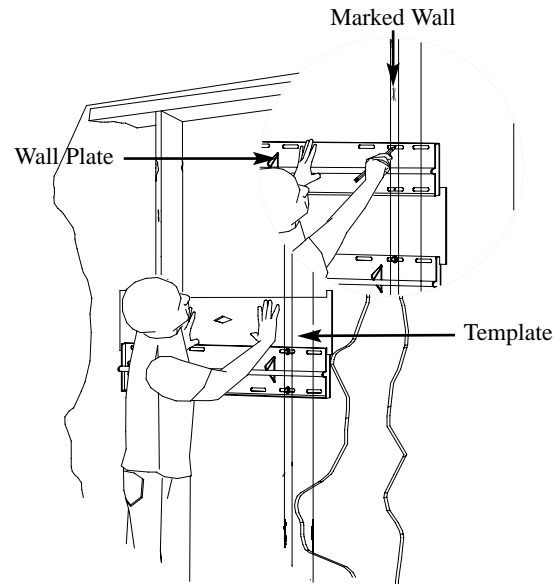

Figure 12
5. Lay the top wall plate on top of the cardboard template and mark the four (4) mounting points (Figure 12).